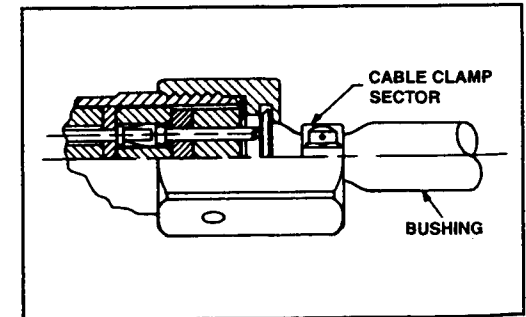

FIGURE 4
6. Advance both insulations forward, making sure that the wires are straight and in no way are twisted. Apply lubricating oil on the face of the rigid dielectric, so the insert will not rotate, and will not result in twisted wires, when the clamp nut is tightened. Tighten by applying 20 ft. lbs. of torque on the clamp nut onto the plug shell. See Figure 4. Insure that the 20 ft. lbs. of torque is retained, and recheck this value after 20 min.
7. Bundle the wires and apply the cable clamp sector. See Figure 4.